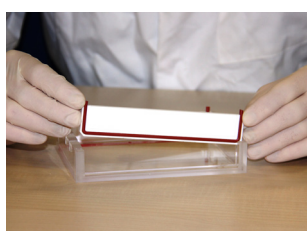

Fig.1
- Fit the casting dams over each end of the tray and place onto a level surface. The dams should be fitted so that there is no gap between the sides of the tray and the groove in the dams. This will ensure that there is no possibility of gel leakage (Fig.1)